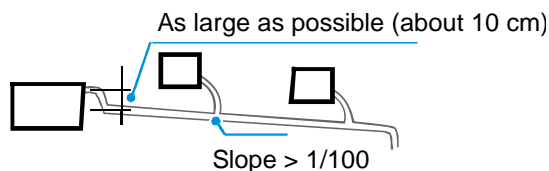

Figure 3 Method for centralised water discharge piping connection
- When the air outlet panel is connected to the air outlet flange of the unit body via the metallic air diffuser, make sure that the sheet metal contact surface is properly sealed and insulated using sponge, as shown in Figure 3.
- When concentrating and installing the water discharge piping, arrange the pipes according to the diagram provided in Figure 3.